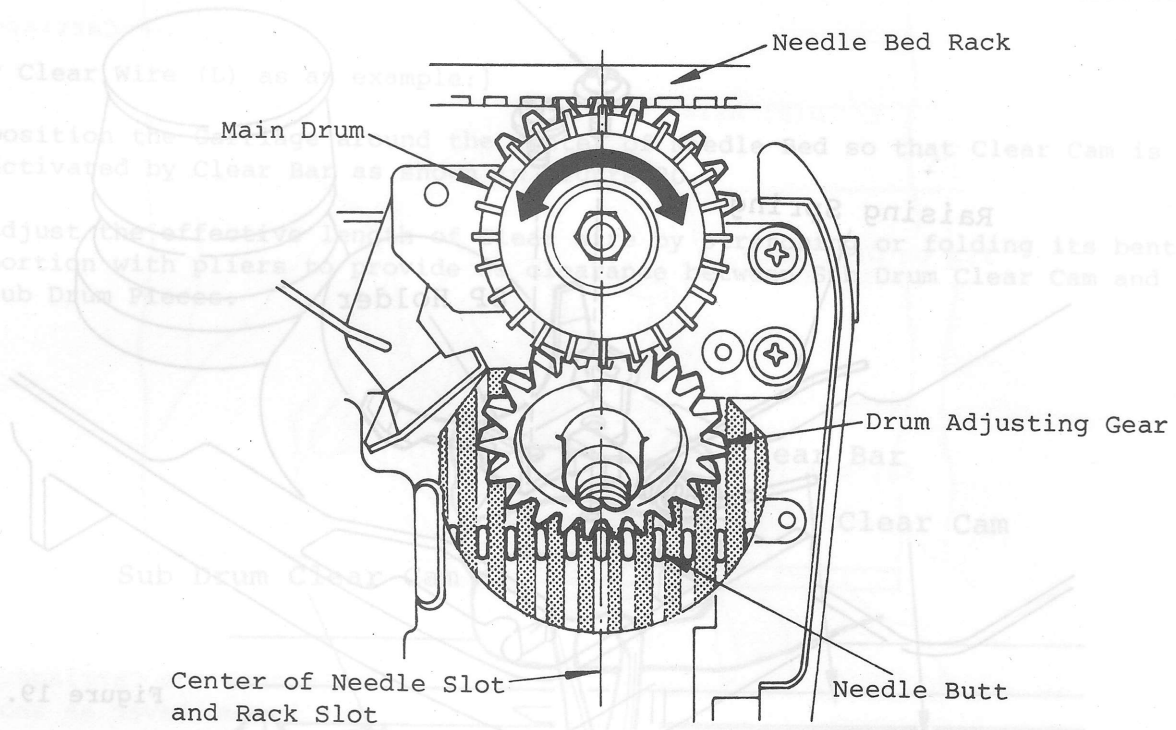

Figure 18.
8. With the notch (the space between gear teeth) of Drum Adjusting Gear fitted to the needle slot, adjust the position of Drum Base Unit to align the center line between both Main and Sub Drum Axes with the center of both needle slot and rack slot as shown in Figure 18. At the same time, obtain the main drum backlash of approximately 0.2mm circumferential against Needle Bed Rack.